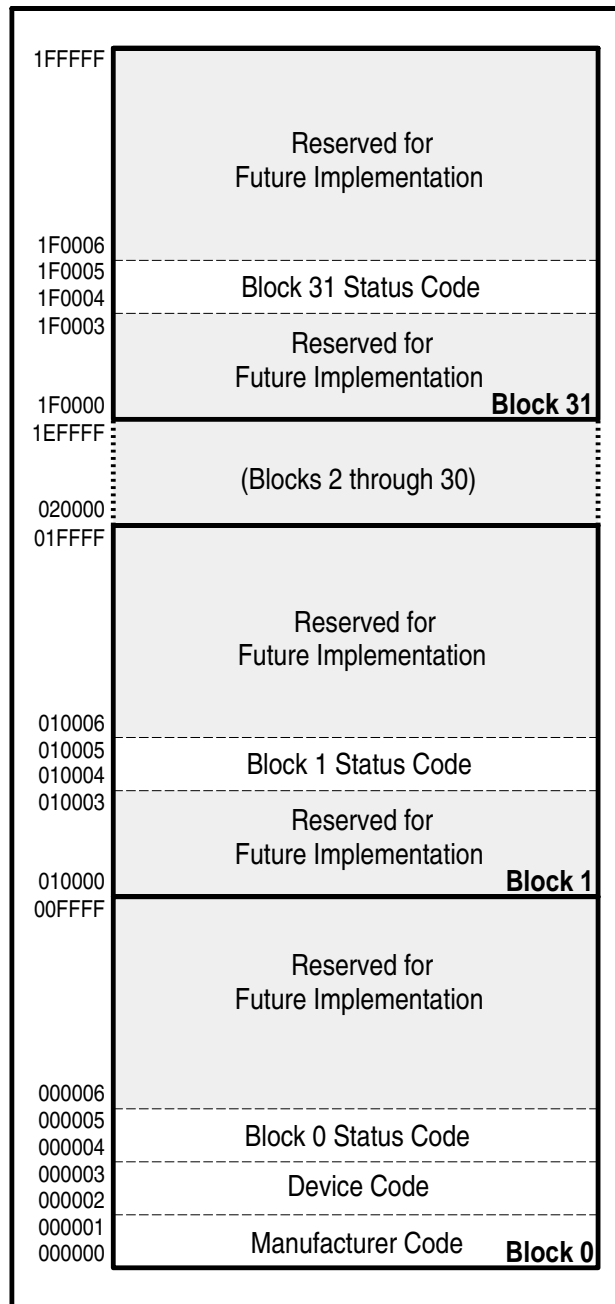

Figure 4. Device Identifier Code Memory Map
The read identifier codes operation outputs the manufacturer code, device code, block status codes for each block (see Figure 4). Using the manufacturer and device codes, the system CPU can automatically match the device with its proper algorithms. The block status codes identify locked or unlocked block setting and erase completed or erase uncompleted condition.
IA=Identifier Code Address: see Figure 4.
The identifier code operation is initiated by writing the Read Identifier Codes command. Following the command write, read cycles from addresses shown in Figure 4 retrieve the manufacturer, device, block lock configuration and block erase status (see Table 5 for identifier code values). To terminate the operation, write another valid command. Like the Read Array command, the Read Identifier Codes command functions independently of the V_{PP} voltage and $RP\#$ must be V_{IH} . Following the Read Identifier Codes command, the following information can be read:
1. X selects the specific block status code to be read. See Figure 4 for the device identifier code memory map.